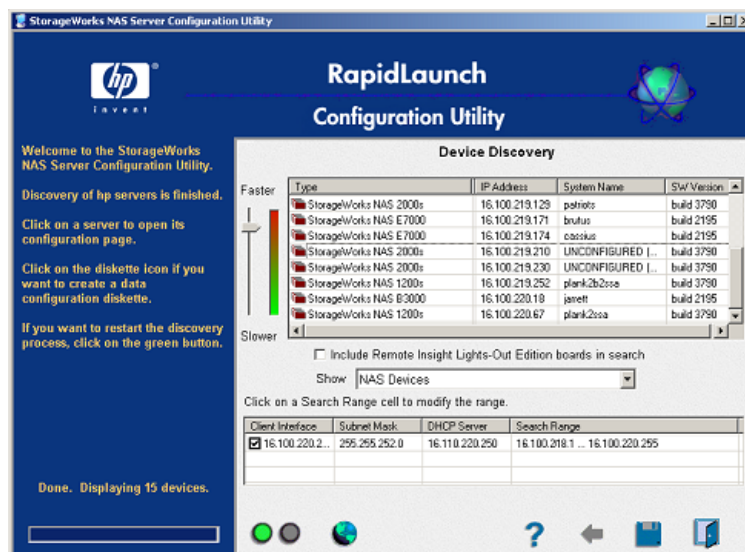

Figure 2: RapidLaunch device discovery screen
- All the storage servers found on the network are displayed as shown in Figure 2. It can take several minutes for the storage server to be found on the network.